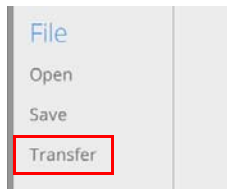

FIG. 43 File → Transfer
1. In the Side menu, click **File > Transfer** (FIG. 43):